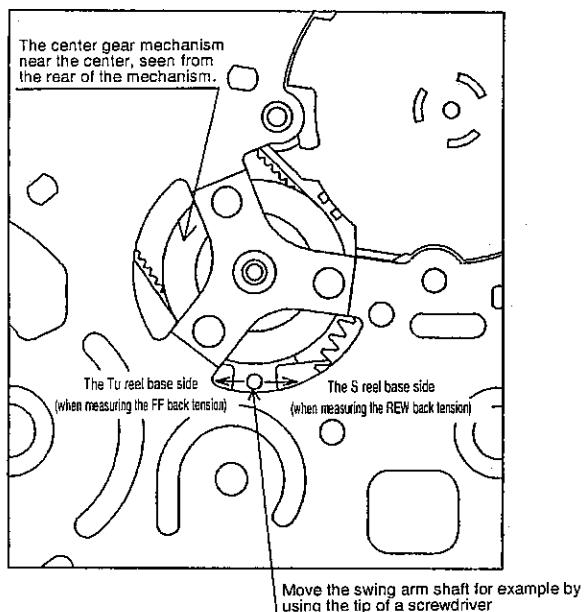

Fig. 7. The swing arm shaft position (seen from the rear of the mechanism) when measuring the FF • REW back tension.
(1) Remove the cassette control assembly, then apply DC3V to the loading motor and put the system into FF mode (refer to 9-1).
(2) Turn the mechanism over, then move the swing arm to the Tu reel base side, for example by using the tip of a screwdriver (refer to Fig. 7).
(3) Set a back tension measurement reel hub on the S reel base.
(4) Using a dial tension gauge, pull the string in the A direction, then confirm that the tension is within the standard.
- (1) Remove the cassette control assembly, then apply DC3V to the loading motor and put the system into REW mode (refer to 9-1).
- (2) Referring to 9-3 (3) thru (5), insert thick paper, then release the DOWN switch and the Tu lock release lever.
- (3) Turn the mechanism over, then move the swing arm toward the S reel base side, using for example the tip of a screwdriver (see Fig. 7).
- (4) Set a back tension measurement reel hub on the Tu reel base.
- (5) Using a dial tension gauge, pull the string in the A direction, then confirm that the tension is within the standard.
- (6) Remove the paper that was inserted in (2).
- (1) Remove the cassette control assembly, then apply DC3V to the loading motor and put the system into standby mode (refer to 9-1).
- (2) Referring to 9-3 (3) thru (5), insert thick paper, and release the DOWN switch and the Tu lock release lever.
- (3) Turn the mechanism over, then move the swing arm to the S reel base side, for example with the tip of a screwdriver (see Fig. 7).
- (5) With the dial tension gauge, pull the string in the A direction and confirm that the tension is within the standard. (If the tension fluctuates, read the center value.)